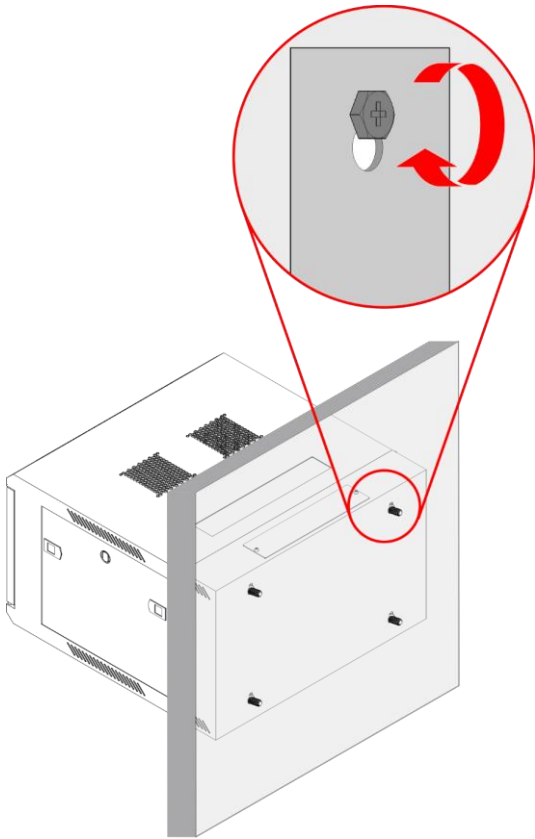

Fig. 24
- 08) Tighten the screws and make sure that the cabinet is correctly secured, as shown in Fig. 24.